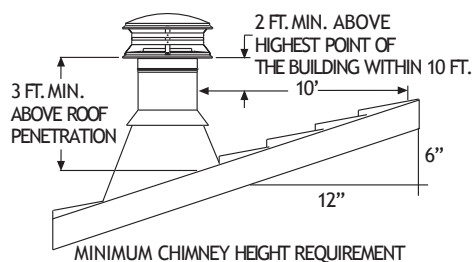

Figure 1
- See Figure 1. The termination cap is installed above that point. If chimney is more than 5' above the roof penetration a Roof Brace is required.